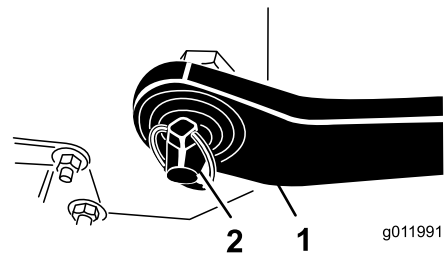

Figure 3
5. Insert the right and left lower link arms onto the hitch pins (Figure 3).
6. Secure the lower link arms to the hitch pins with the lynch pins (Figure 3).